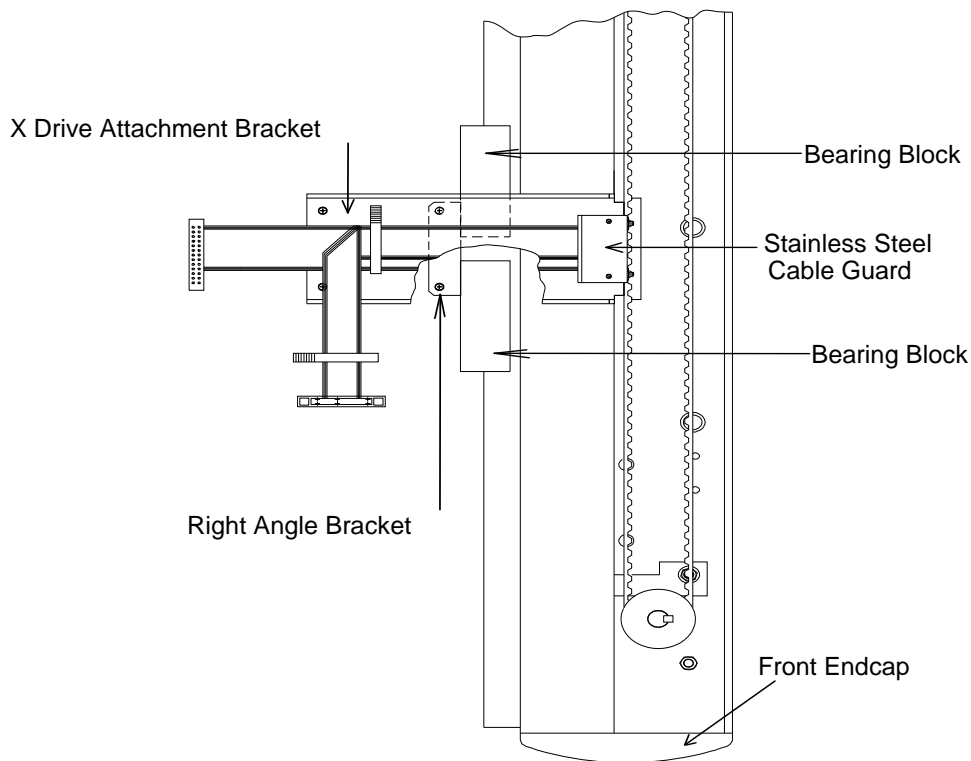

Figure 3-7. Table X Drive
4. Referring to Figure 3-7, remove the right-side, front endcap (3 Phillips screws).
7. Refer to Figure 3-7. Disconnect the stainless steel cable guard (2 screws) and remove the Table X-drive attachment bracket (4 bolts and 2 nuts).
11. Refer to Figure 3-7. Install the right angle bracket (found in the miscellaneous hardware kit) to hold the bearing blocks and X-drive bracket in place while the scanner is moved. If this bracket is not available, tape the bearing blocks, and X-drive bracket in place.